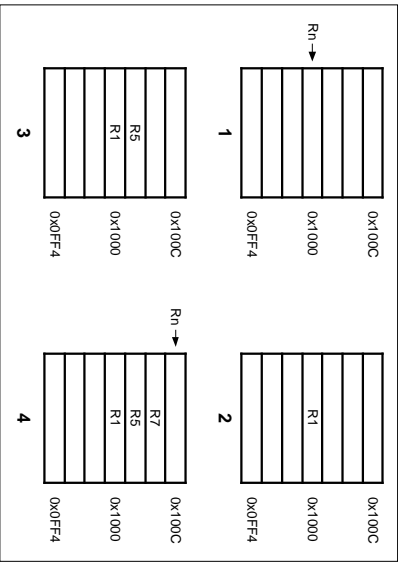
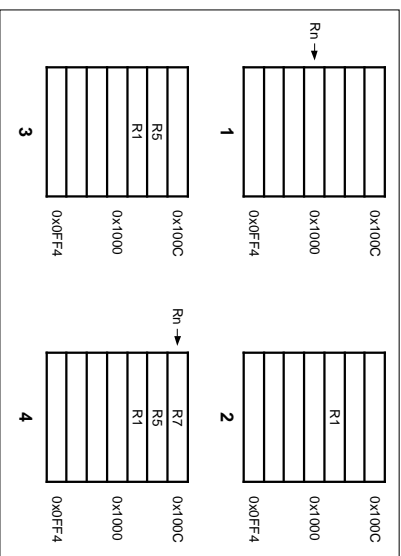
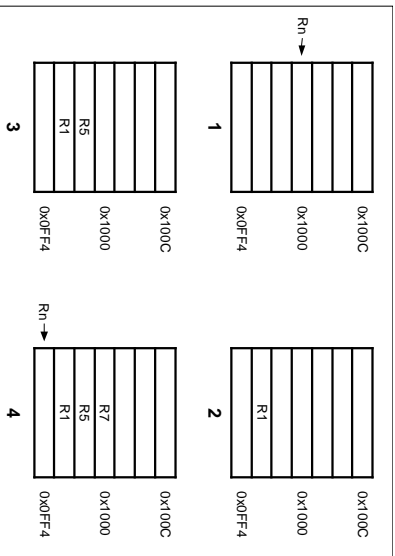
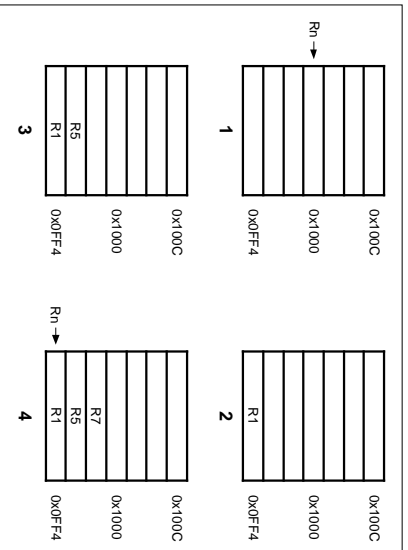

Figure 4-19: Post-increment addressing
Figure 4-20: Pre-increment addressing
Figure 4-21: Post-decrement addressing
Figure 4-22. Pre-decrement addressing
The transfer addresses are determined by the contents of the base register (Rn), the pre/post bit (P) and the up/down bit (U). The registers are transferred in the order lowest to highest, so R15 (if in the list) will always be transferred last. The lowest register also gets transferred to/from the lowest memory address. By way of illustration, consider the transfer of R1, R5 and R7 in the case where Rn=0x1000 and write back of the modified base is required (W=1). *Figure 4-19: Post-increment addressing*, *Figure 4-20: Pre-increment addressing*, *Figure 4-21: Post-decrement addressing* and *Figure 4-22: Pre-decrement addressing* show the sequence of register transfers, the addresses used, and the value of Rn after the instruction has completed.